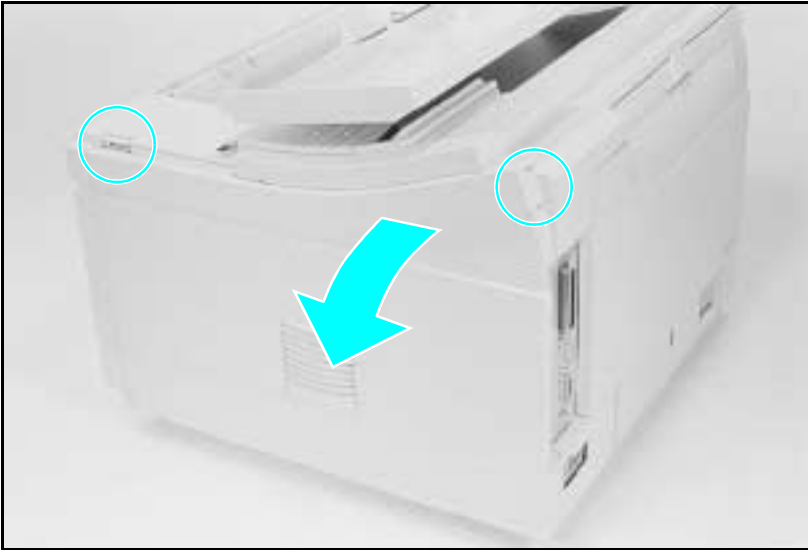

Figure 6-2 **Right Side Cover Release Points**
- 1 Open the Top Cover and release the Right Side Cover by pressing at the points shown in Figure 6-2.